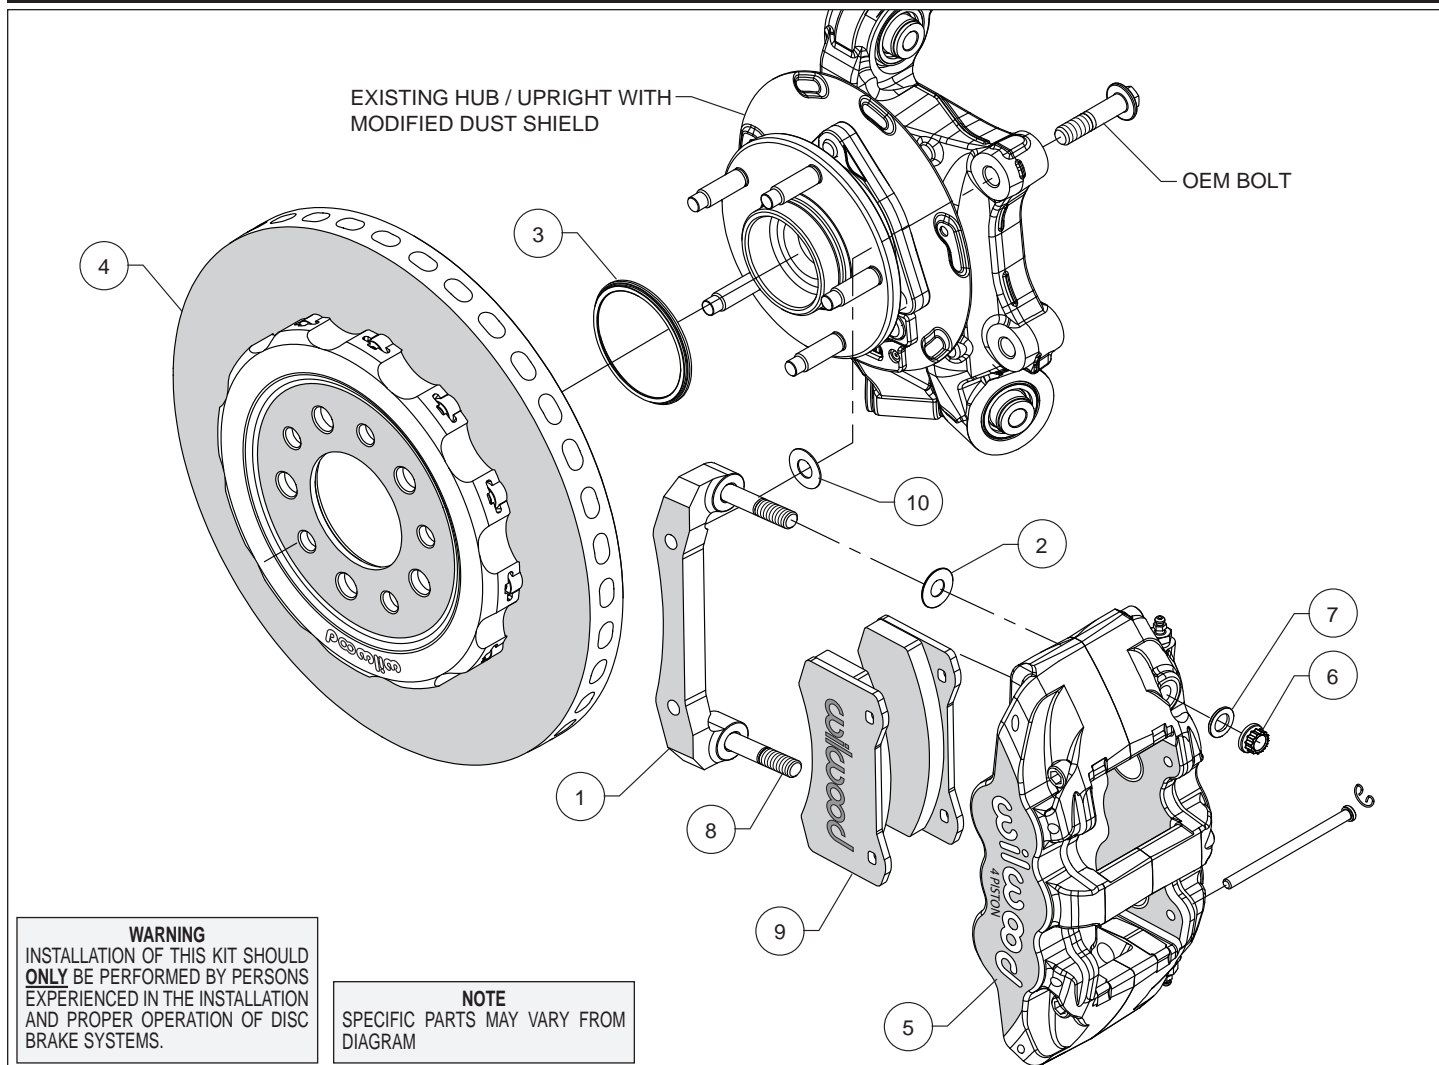
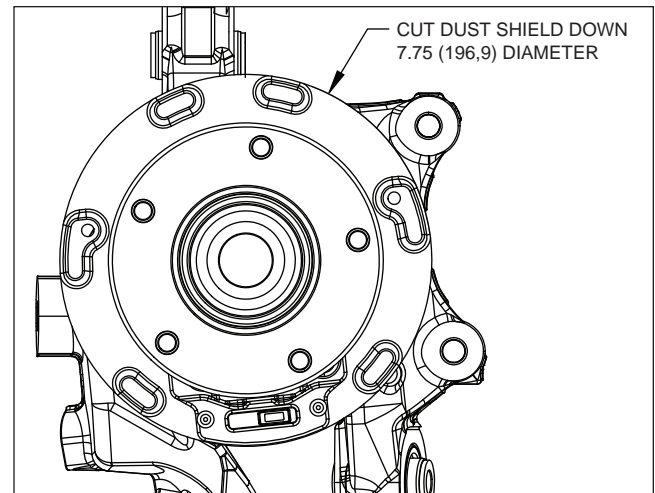

Figure 1. Typical Installation Configuration
Figure 3. Backing Plate / Dust Shield Modifications
- The rear backing plate/dust shield needs to be modified as shown in Figure 3 to clear the new Wilwood rotor (4) and caliper mounting bracket (1). **NOTE:** It is recommended that the backing plate be removed before modification, and the modifications be performed by a qualified machine shop. After backing plate removal, cut the dust shield to 7.75" diameter as shown in Figure 3. Temporarily mount the caliper mounting bracket as shown in Figure 1. Figure 3, examine the fit of the bracket against the OE caliper mounting tabs and verify that the bracket mounts flush.
**Assembly Instructions** (numbers in parenthesis refer to the parts list and Figure 1 on the preceding pages):
- The caliper mount bracket (1) should initially be installed with clean, dry threads on the mounting bolts. Orient the bracket as shown in Figure 1, and install using saved OEM mounting bolts. Initially place one .033 thick shim (10) on each bolt between the bracket and upright, Figure 1. Temporarily tighten the mounting bolts. **NOTE:** The bracket must fit squarely against the mount bosses on the upright. Inspect for interference from casting irregularities, machining ridges, burrs, etc. Later, after the caliper alignment has been checked, the mount bolts will be secured using red *Loctite*® 271.
- Slide the rotor registration adapter (3) onto the axle register on the axle hub with the smaller O.D. facing outward, Photo 1. Align the correct hole pattern in the hat with the stud pattern on the axle hub and slide into place, Figure 1. **NOTE:** The hat must fit flush against the axle hub flange or excessive rotor run out may result. Install three lug nuts (finger tight) to keep the hat/rotor assembly in place while continuing with the installation.
- Lubricate the caliper mounting studs (8) with lightweight oil. Initially place one .030" thick shim (2) on each stud between the caliper and the bracket, as shown in Figure 1 and Photo 2. Mount the caliper (5) onto the bracket (1) using lock nuts (6) and washers (7), Figure 1. Temporarily tighten the lock nuts and view the rotor through the top opening of the caliper. The rotor should be centered in the caliper, Photo 3. If not, adjust by adding or
- Remove the two pad retaining pins from the caliper by carefully popping out the pin retaining clips and sliding out the pins. Insert the brake pads (9) into the caliper from the bottom, Figure 1 and Photo 4, with the friction material facing the rotor and secure the brake pads in place with the pad retaining pins and clips, Photo 5. Reinstall the caliper onto the caliper mounting bracket and temporarily tighten the lock nuts. Check that the top of the brake pad is flush with the outside diameter of the rotor, Photo 6. If not, adjust by adding or subtracting shims (2) between the caliper and the bracket. After the caliper pad height is set, torque the caliper lock nuts (6) to 47 ft-lb.